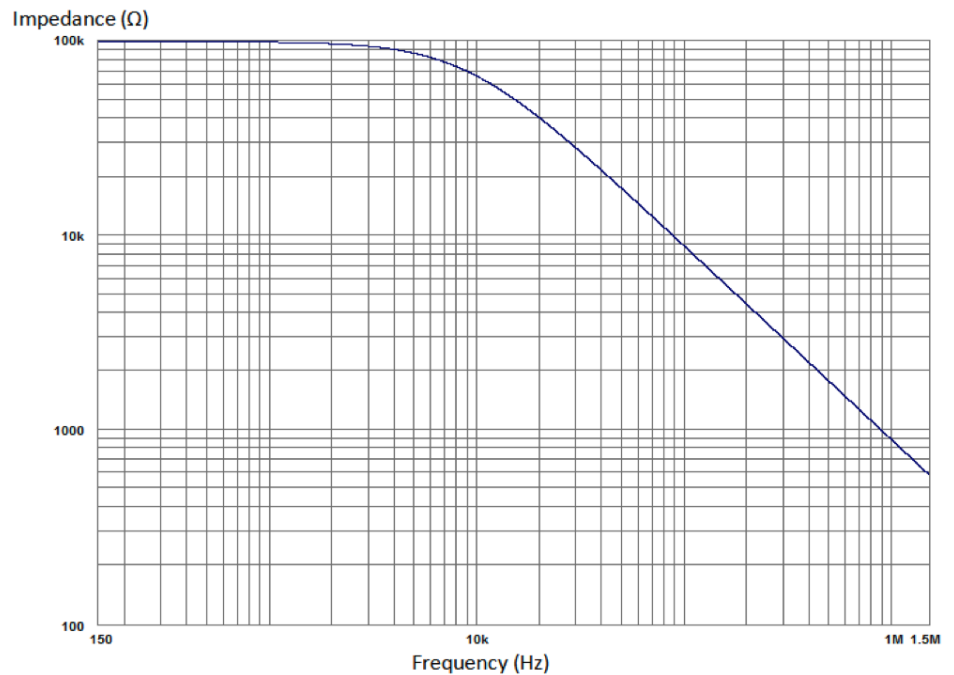

Figure 1.
As well as the 100 k $\Omega$  input resistance, Audio Analyzer's have some finite input capacitance. Some of this capacitance is deliberate, it forms an input low pass filter with a corner frequency way above the measurement range of the instrument. The purpose of this filter is to remove any high frequency (RF) content from the input signal that could otherwise upset the audio measurement circuitry. In the case of the U8903B, the input capacitance of the measurement circuitry is around 150 pF, with perhaps another 30 pF due to cabling. Taking all this into consideration the input impedance against frequency is shown in Figure1. Here we see that the impedance is around 40 k $\Omega$  at 20 kHz and less than 1 k $\Omega$  at 1 MHz.